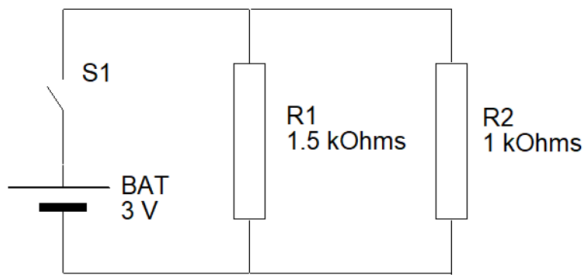

Figure 3: Circuit 2
b) Find the total resistance of the circuit shown in Figure 3 below. Show all your working.